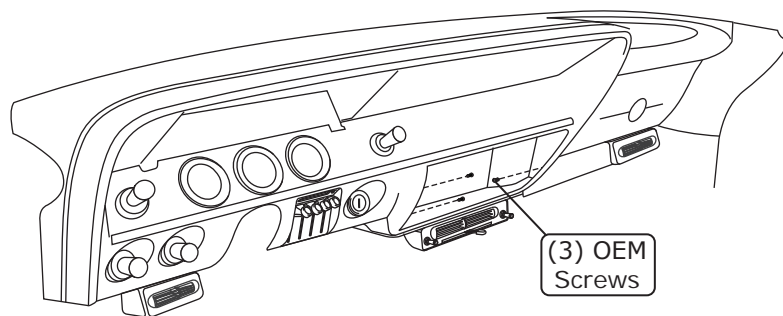

Figure 1
3. Install the supplied glove box, and secure it using (3) OEM screws through the OEM holes as shown in Figure 1, below.